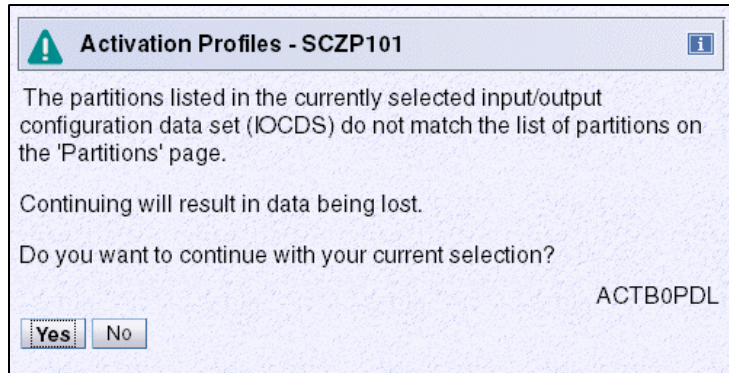

Figure 4-95 HMC - Activation Profiles, message ACTB0PDL
8. Click the IOCDS that you just updated in the previous step. Message ACTB0PDL is displayed; see Figure 4-95.